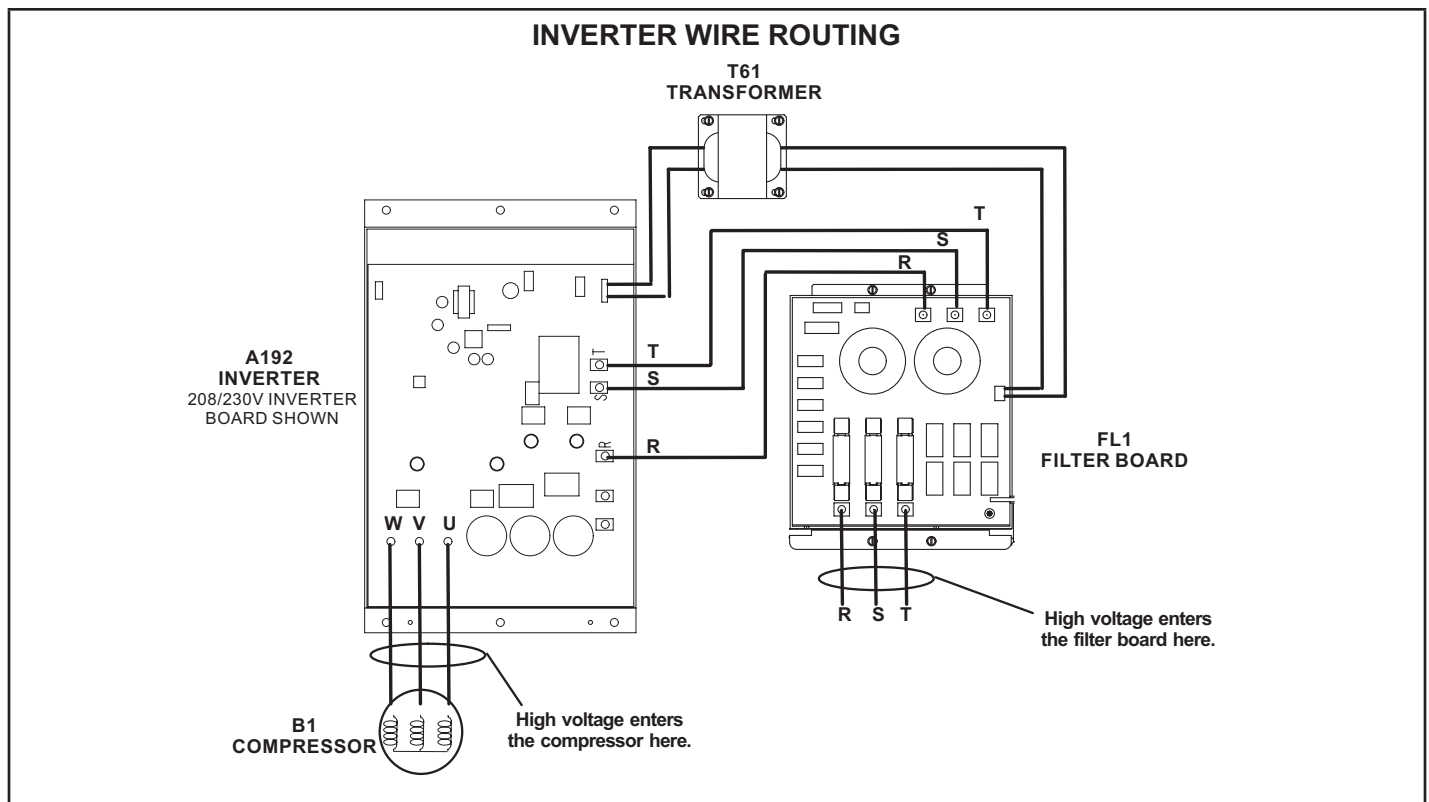

FIGURE 13
- A communication issue - check MODBUS communication wire for good connections between the Unit Controller and the inverter board. See TABLE 3 for inverter-related alarms. Inverter component wire routing is shown in FIGURE 13.